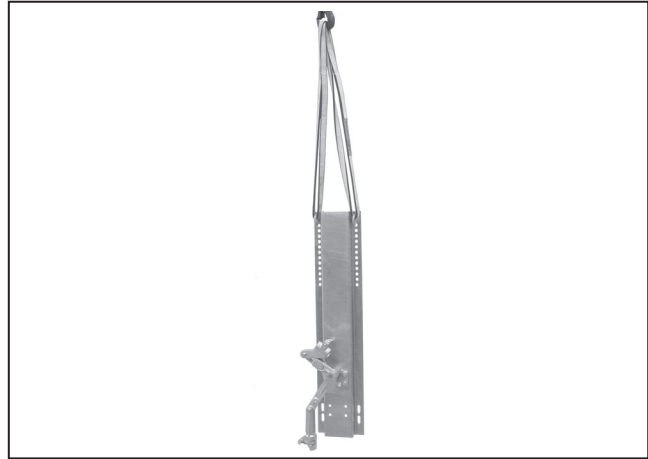

Figure 3. Hoisting the bell-crank into position.
**STEP 4.** Hoist the bell-crank assembly, including base or bracket, and bolt it into position as shown on the erection drawing. See Figure 3.